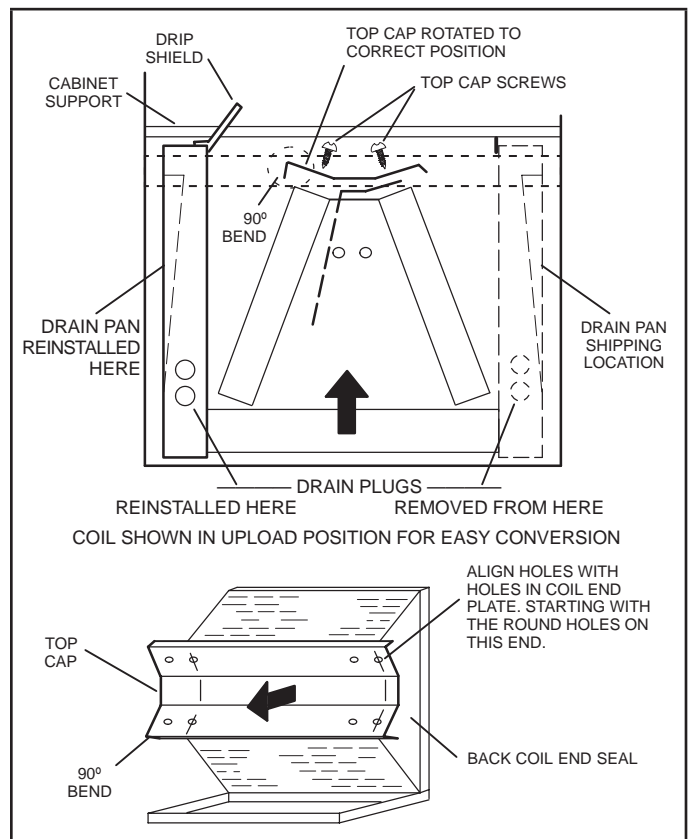

FIGURE 4. Field Modification for Left-Hand Discharge
- 5 - Remove screws from top cap. Remove horizontal drip shield screw located in the center of the back coil end seal as illustrated in figure 4.
- 8 - Rotate top cap 180° front-to-back and align with unused screw holes. Holes must align with front and back coil end plates. The top cap has a 45° bend on one side and a 90° bend on the other. **The 90° bend must be on the same side as the horizontal drain pan as illustrated in figure 4.**